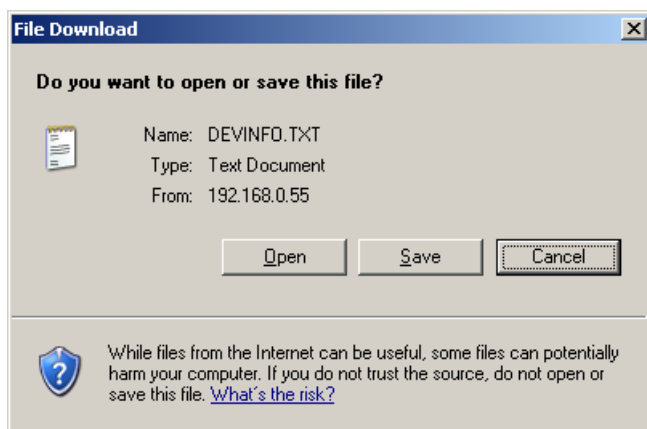

Fig. 7-6 File Download Dialog
- ✧ In the **File download** dialog (see figure 7-6), click the **Open** button.